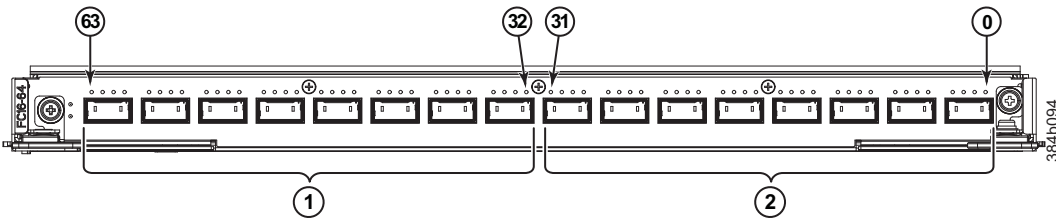

Figure 59. FC16-64 port blade
- Figure 59 on page 162 shows an FC16-64 port blade